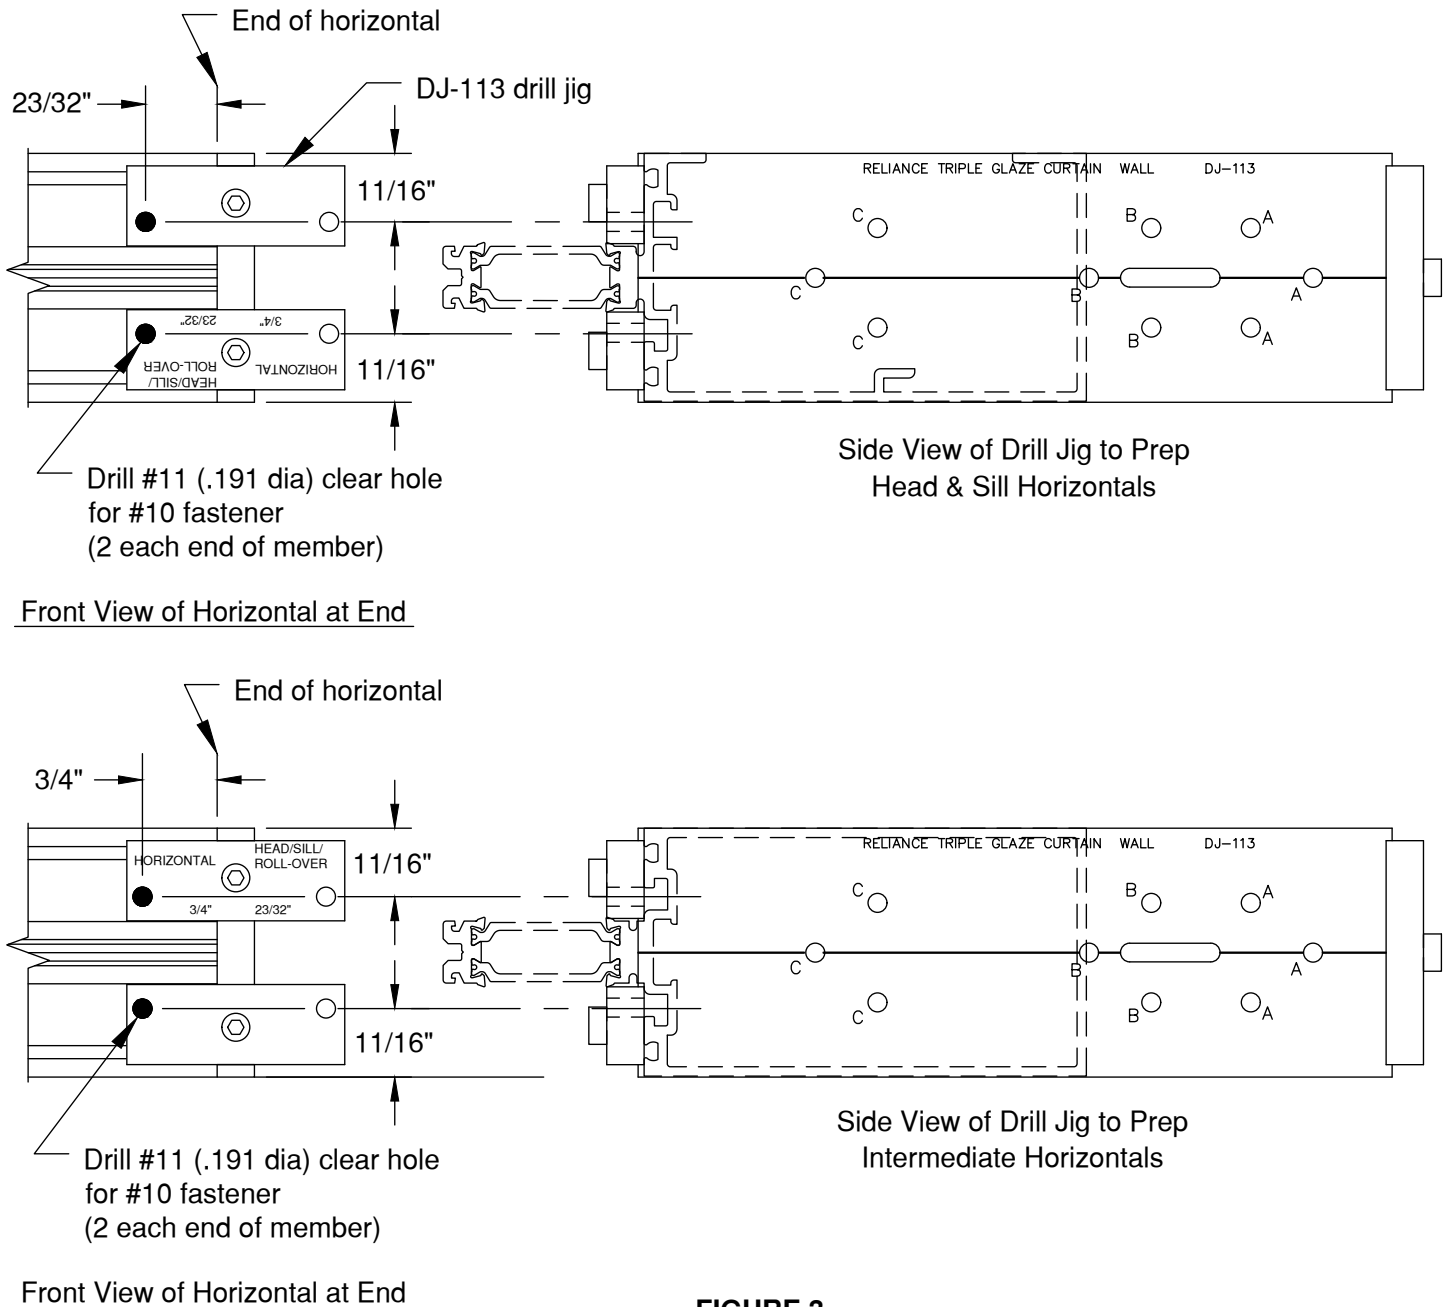

FIGURE 3
- 1.5 Fabricate ends of horizontal members for shear block screws, using DJ-113 drill jig. **SEE FIGURE 3. Note: When fabricating horizontals, use the side of the drill jig stamped " Horizontal" . When fabricating head and sill horizontals, use the side stamped " Head/Sill/Rollover" .**